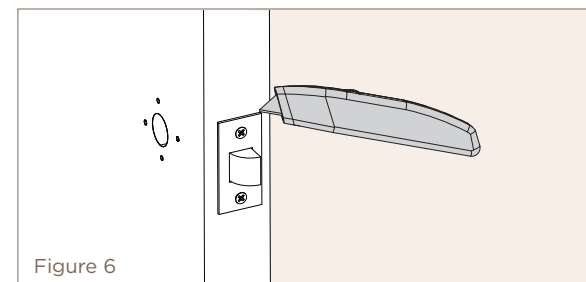

Figure 6
11. Carefully cut around the edge of the face plate (B) with a Stanley knife to mark the outside. Figure 6.